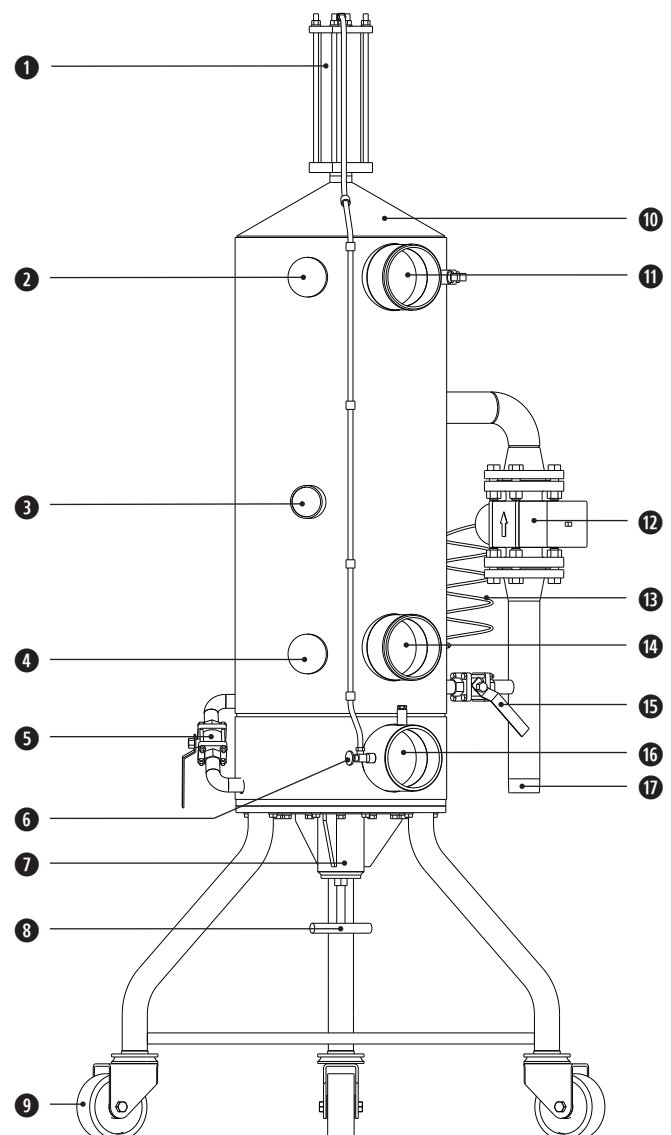

Figure 2.1: Cooling Column Overview
3. Connect the cooling hoses from the engine to the positions indicated in Figure 2.1 using the appropriate hardware.